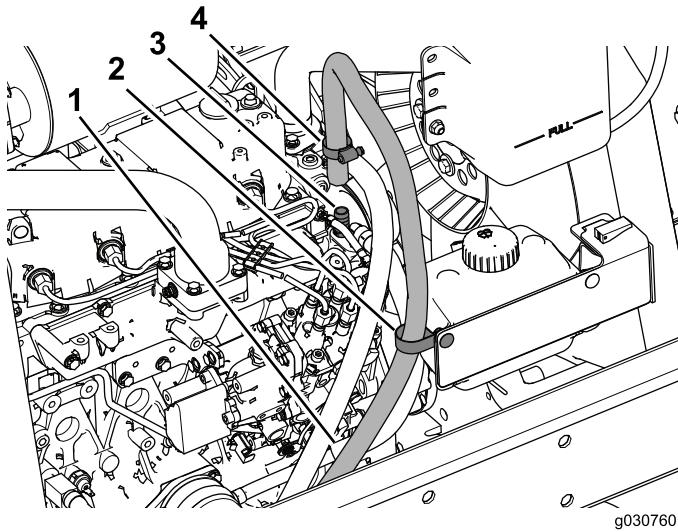

Figure 40
- 6. Slide the hose-clamp over the return hose and then insert the hose over the fitting (3/8 NPT x 0.625 barb) as shown in Figure 40.